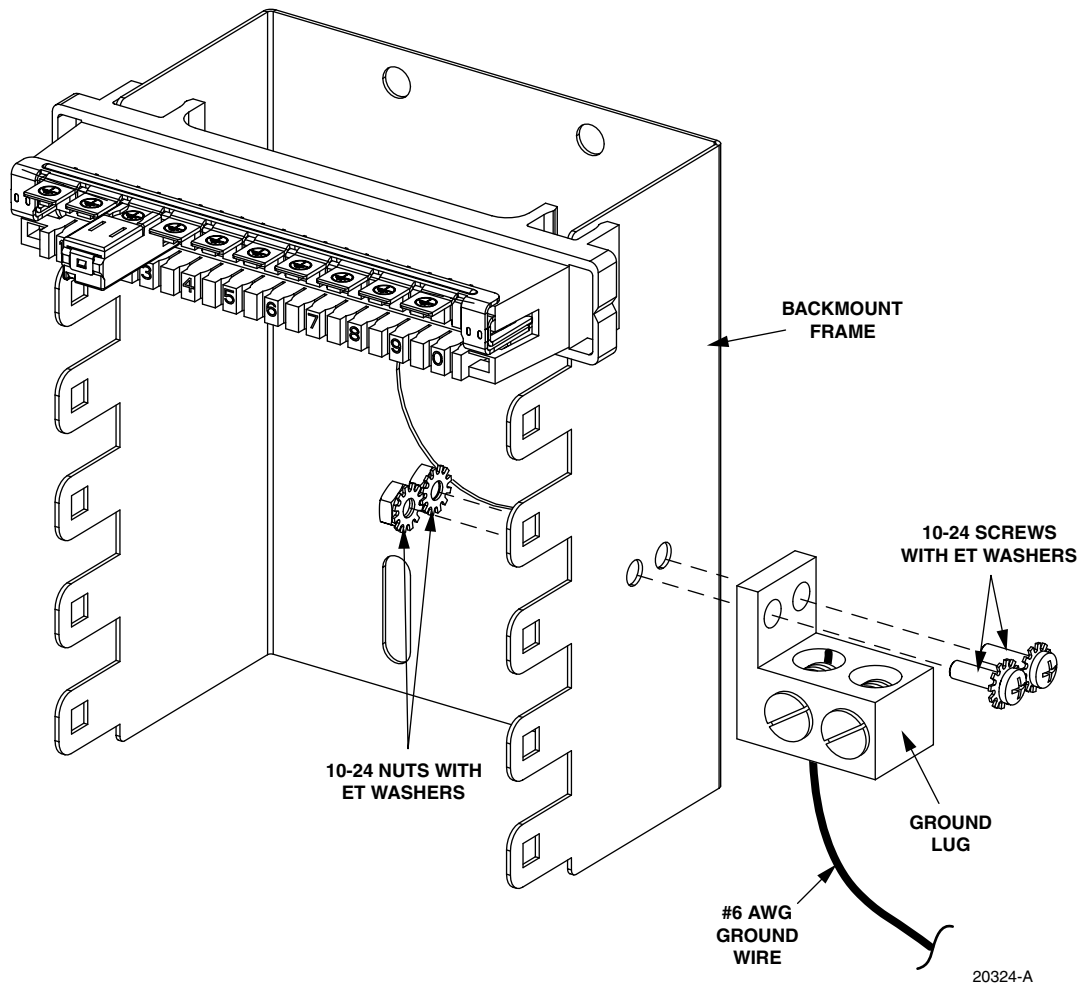
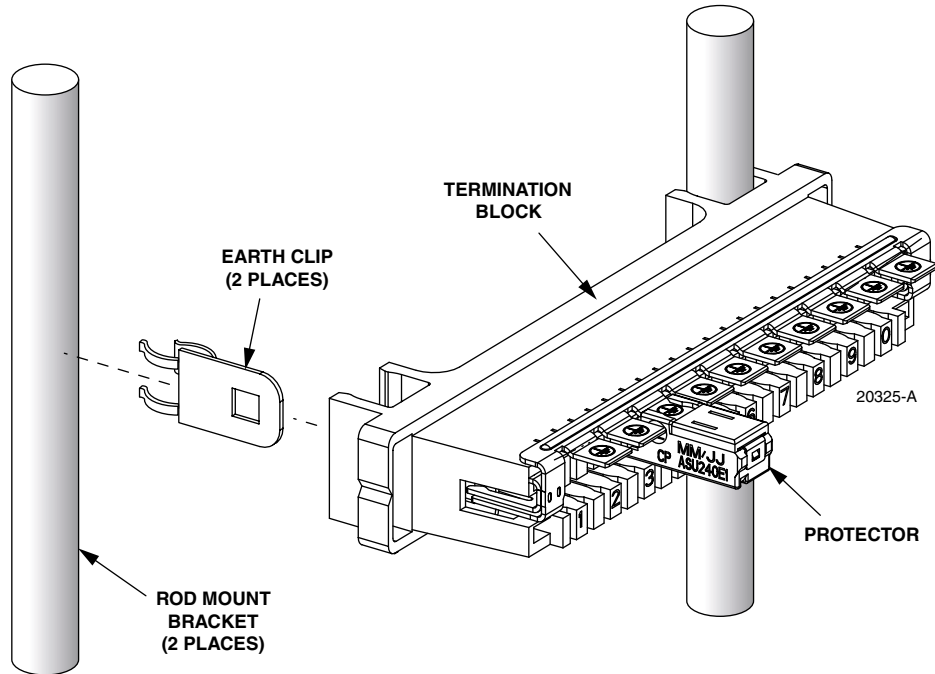

Figure 5. Back Mount Frame Ground Lug Mounting
Figure 6. Ground Rod Mounting Bracket
The Back Mount Frame or Rod Mount Bracket must be properly grounded (Figure 5 or Figure 6). Attach a number 6 AWG ground wire connected to an approved external ground to the Back Mount Frame or Rod Mount Bracket. On some models, a double ground lug has been provided on the Back Mount Frame. The ground resistance from ground bar to nearest qualified ground must be less than 0.05 Ohms.
- **Note:** When using LSA-PROFIL termination blocks that have been installed on Rod Mount Brackets, two Earth Clips (6089 3 202-00) are required for proper grounding (Figure 6). One Earth Clip is required for each ground bar (2 per termination block).